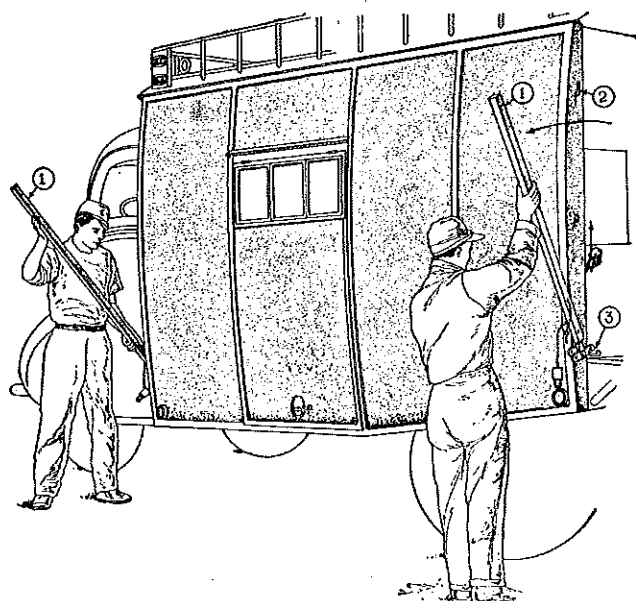

Fig. 10—Lifting Up Square Support Legs
2. Lift up square support leg (1), in Fig. 10, far enough to free top end from pin (2), mounted on the edge of the side.
3. Swing leg down so closure (3), in Fig. 10, opens and unhooks from the body of the shop.